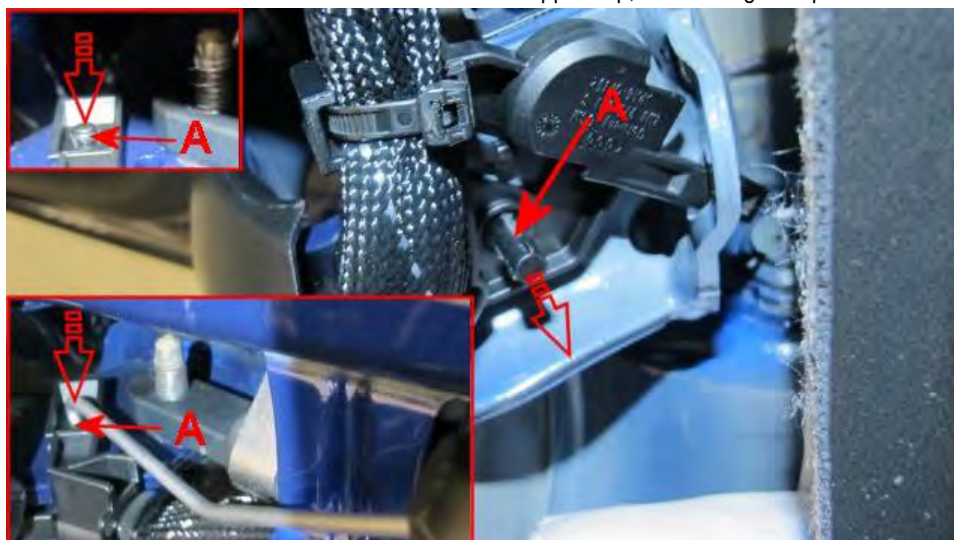

Figure 2
- Referencing figure 2, from the top of hinge, push out harness clip retaining pin 'A' take the pin fully out